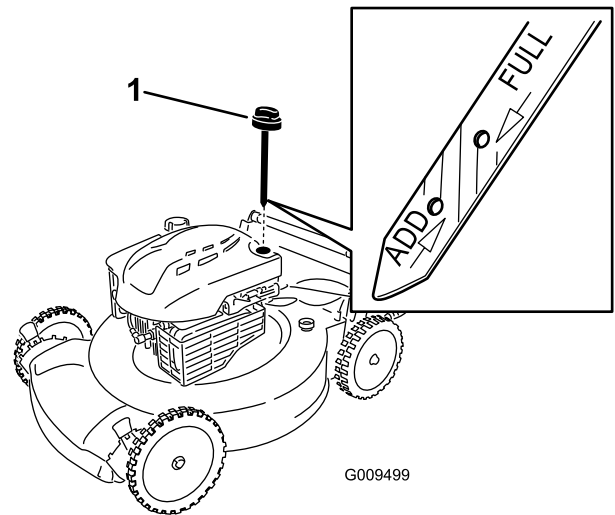

Figure 16
3. Remove the dipstick (Figure 16).
6. Slowly pour oil into the oil fill tube until the oil level reaches the Full line on the dipstick (Figure 16). Wait 3 minutes after adding oil to check the oil with the dipstick. **Do not overfill.** (Max. fill: 20 oz. (0.59 l), type: SAE 30 detergent oil with an API service classification of SF, SG, SH, SJ, SL, or higher.)